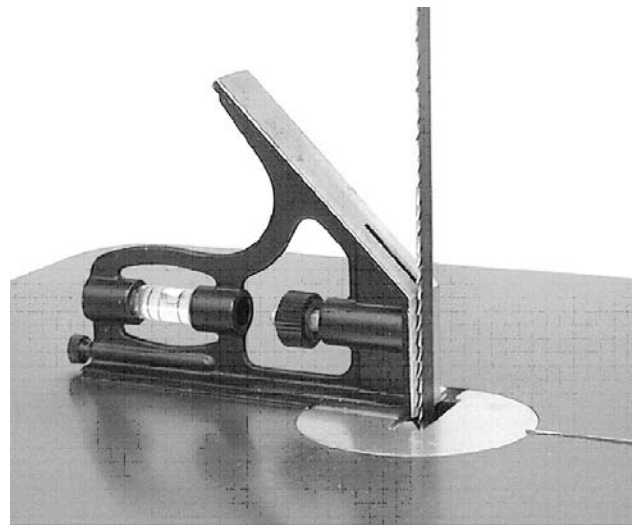

Figure 5
3. Use a square placed on the table and against the blade (Fig. 5) to see if the table is 90 degrees to the blade.